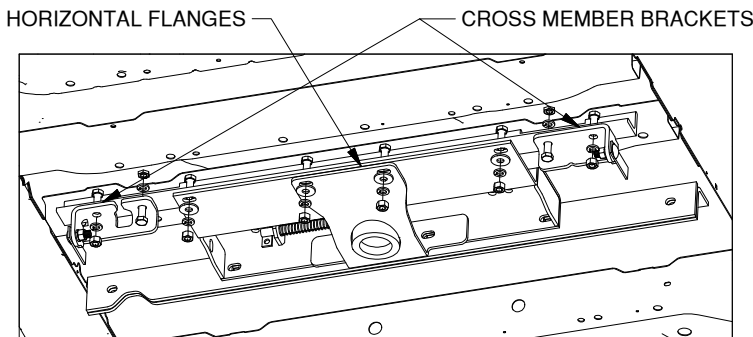

Figure G1: Looking up under truck bed (frame not shown).
2. **Attach rear cross member.** Position the rear cross member so that the holes in its horizontal flange line up with the holes in the cross member brackets, and the holes in the horizontal flange of the center section. Attach these four parts together using the 1/2" x 1-1/2" long bolts, flat washers, lock washers, and nuts, as shown in Figure G1.